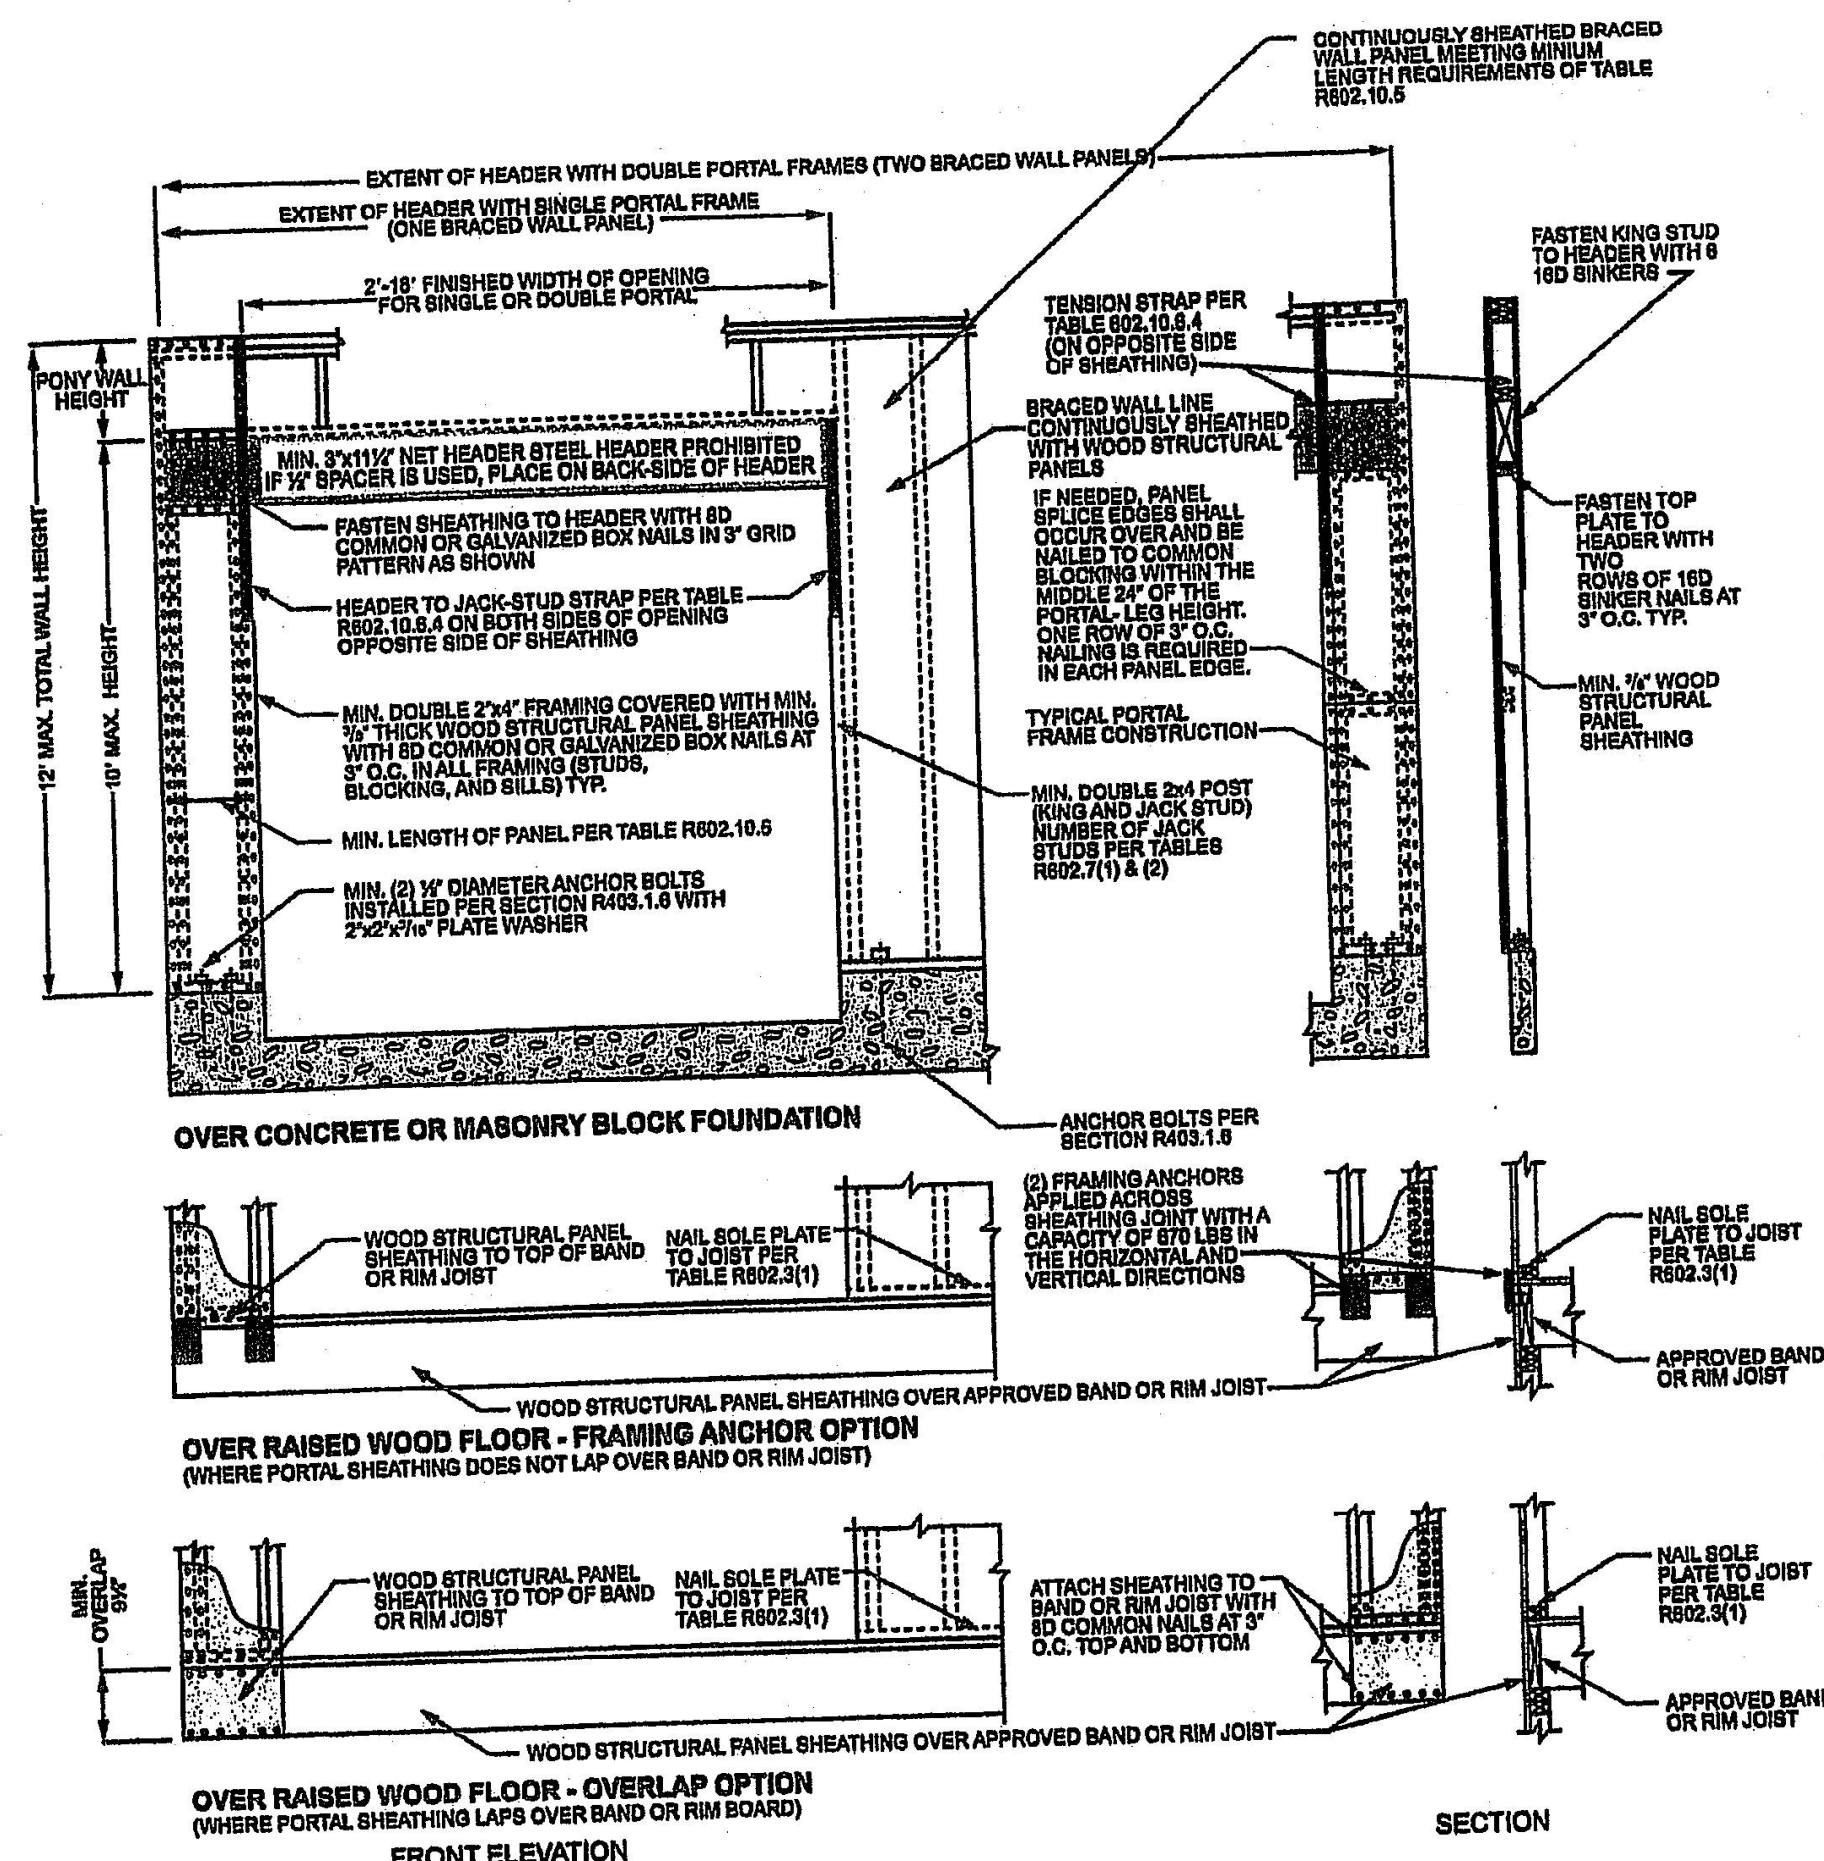

FIGURE R602.10.6.4
c. Maximum header height for PFH is 10 feet in accordance with Figure R602.10.6.2, but wall height shall be permitted to be increased to 12 feet with pony wall.
d. Maximum header height for PFG is 10 feet in accordance with Figure R602.10.6.3, but wall height shall be permitted to be increased to 12 feet with pony wall.
e. Maximum header height for CS-PF is 10 feet in accordance with Figure R602.10.6.4, but wall height shall be permitted to be increased to 12 feet with pony wall.